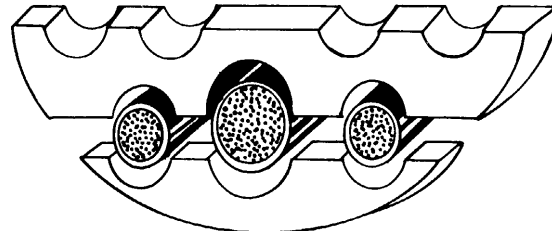

FIGURE 23 - CORRECT SHAPE OF TIP CABLES
6.26 Before applying the end plate, oval the tip cables to prevent pinching the sheath. (Figure 23)